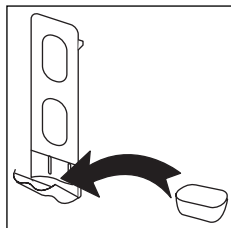

fig. 3
- Open the chlorine filter holder and carefully place the filter in the holder as shown in fig. 3.